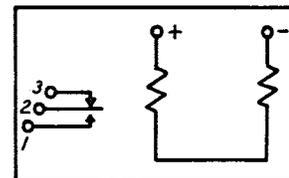

FIG 17-WINDING TERMINAL ARRANGEMENT AS VIEWED FROM THE REAR (TERMINAL SIDE)-177 AND 203 TYPE RELAYS
2.15 As viewed from the front of the relay the front contacts are indicated by 1 and 4, the travel springs (the springs picked up by the hard rubber bridge) by 2 and 5 and the back contacts by 3 and 6. The winding terminal designations as viewed from the rear of the relay are shown on Fig. 17. The designations + and - illustrated in Fig. 17 indicate which polarity of the battery should be connected to this point.